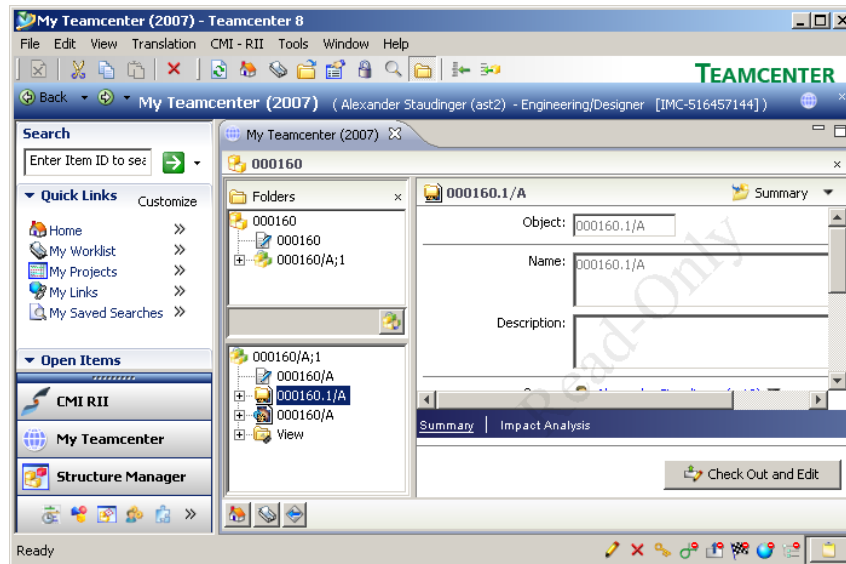

Figure 97: CMIArchive item in Teamcenter
CMI RII has created a new CMI2Archive dataset in Teamcenter. The dataset is linked with the item 000160. Figure 97 shows the expanded CMI2Archive dataset in the My Teamcenter application.